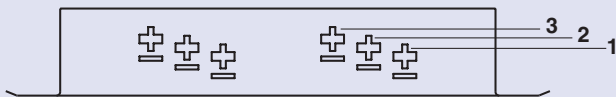

Fig. 1
- Fig. 1 Determine clamping thickness of grille opening.